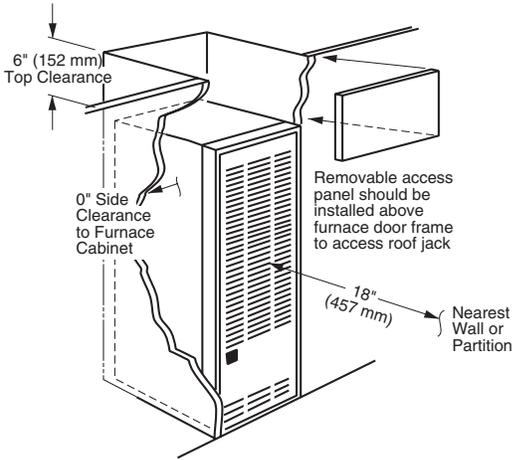
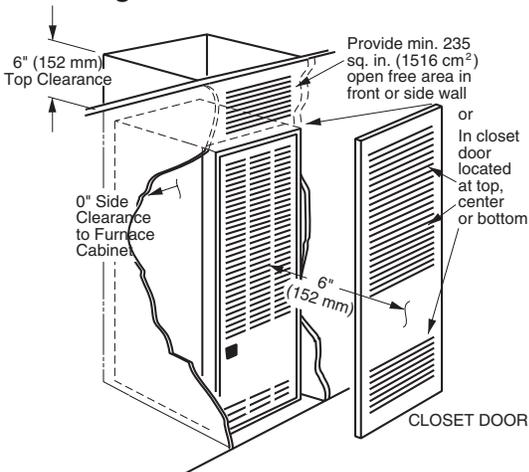

Figure 1. Alcove Installation
Figure 2. Closet Installation
This heating appliance must be installed with clearances not less than the minimums listed in Table 1, \(page 5\). This furnace must be installed with ample clearance for easy access to the air filter, blower assembly, burner assembly, controls, and vent connections. See Figure 1, Figure 2, and Figure 3 \(page 5\).
- The dimensions of the room or alcove must be able to accommodate the overall size of the furnace and the installation clearances listed in Table 1, \(page 5\) and Figure 1 \(page 5\)